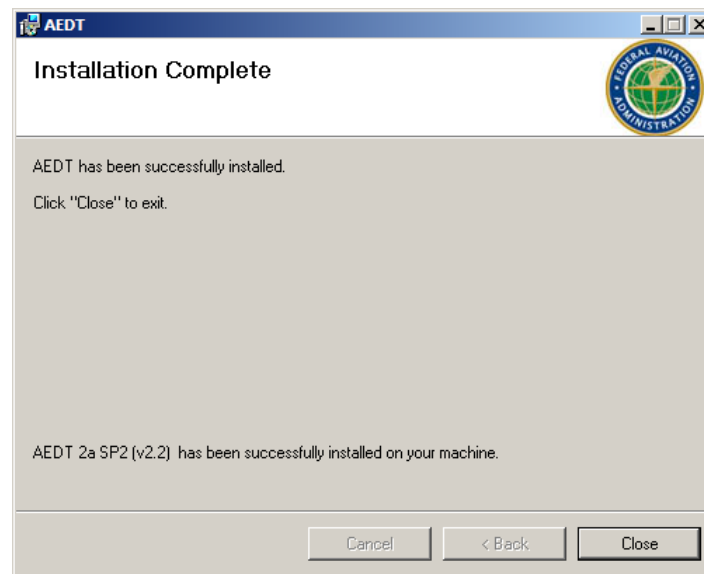

Figure 2-28 AEDT Setup Wizard – Installation Complete
13. Click *Close* to exit the installation (Figure 2-28).